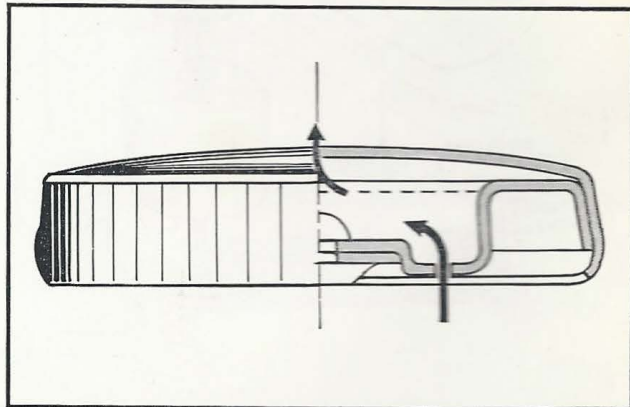

Figure 6-16. Fuel tank cap cross section (C65, C65M)
- ① The insufficient fuel flow may be caused by the plugged vent hole in the filler cap as well as the restriction in the fuel line. (Fig. 6-16, 6-17)
- ② The fuel cock is switched to RES (reserve) from the ON position when the fuel tank becomes empty. The reserve fuel supply contains approximately 0.8 l ($\frac{1.7 \text{ U.S. pt}}{1.4 \text{ Imp pt}}$) for the C50, C50M, C65, C65M and approximately 1 l ($\frac{2.1 \text{ U.S. pt}}{1.6 \text{ Imp pt}}$) for the S50 and S65, sufficient to travel approximately 50 km (31 mi) and 60 km (37 mi) respectively.